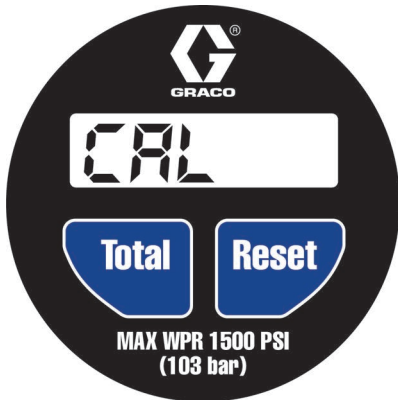

FIG. 7
1. Press the **TOTAL** and **RESET** buttons (FIG. 7) together.
3. CAL appears on the display as shown in FIG. 7. CAL indicates the meter is ready for Calibration Mode.